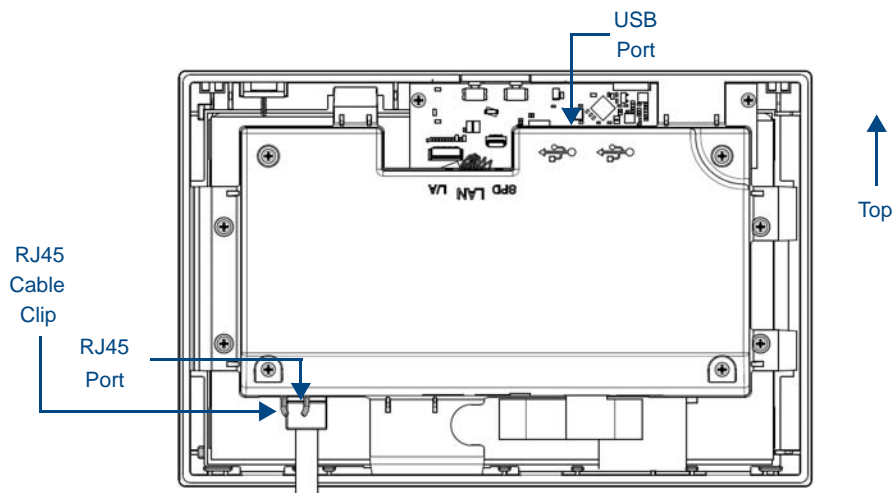
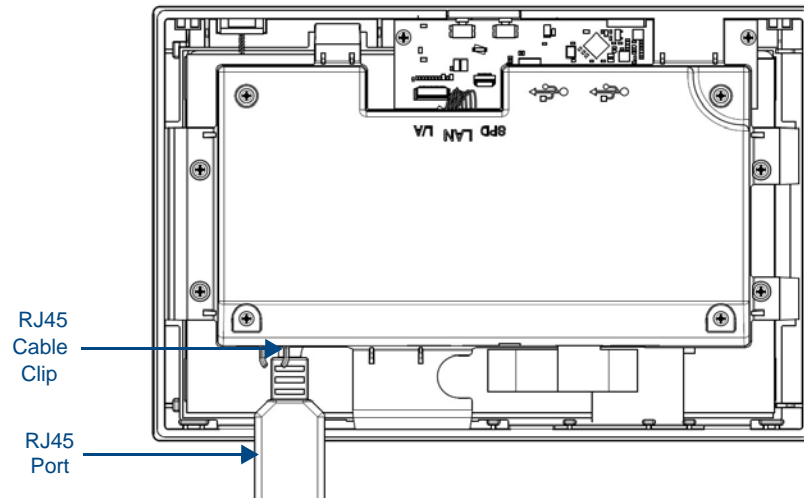

FIG. 15 Rear of the MXD-700 (Landscape)
FIG. 16 Rear of the MXD-700 (with RJ45 connection extended)
Power for the MXD-700 is supplied via Power Over Ethernet (PoE), utilizing an AMX-certified, capacitive touch-compliant PoE injector or other approved AMX PoE power source. The incoming Ethernet cable should be connected to the RJ45 port on the MXD-700 (FIG. 15 and FIG. 16).
10. Insert each connector into its corresponding location along the back of the device (FIG. 15). To reach the RJ45 connector, gently pull it from beneath the electronics cover (FIG. 16). Attach the Ethernet cable and gently push the connection back under the cover.